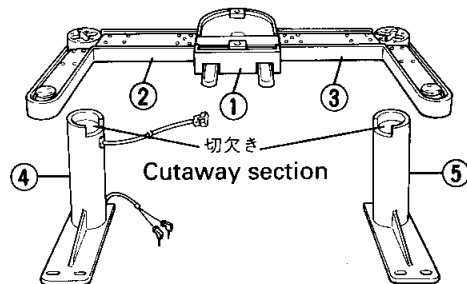
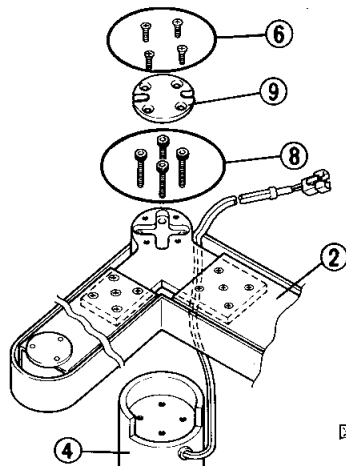

図1B/Figure 1B
図1C/Figure 1C
- (2) 脚柱Ass'y[R] ④と脚柱Ass'y[L] ⑤を図1Bのようにセットします。その際に、切欠き部分の位置に注意して、④と⑤をセットしてください。
- (3) (1)で組み立てたボトム+ベースAss'y ① ② ③を④と⑤の上のせます。
- (4) 図1Cで示すように、ケーブルを脚柱Ass'y[R] ④よりベースAss'y ②に通します。
- (5) 付属の六角レンチ ⑪を使って、固定ネジ ⑧で確実に締め付けます。
- (6) 次に、ゴムパッド ⑨を固定ネジ ⑥各4本で左右止めます。
- (1) Insert the base assemblies [R] ② and [L] ③ into the bottom assembly ①. Secure these using the 4 screws provided ⑥. Then secure the plastic cover of the base assembly with a single screw ⑦.
- (2) Position the leg assembly [R] ④ and leg assembly [L] ⑤ as shown in Figure 1B. When you do this, pay attention to the positioning of the cutaway sections.
- (3) Set the bottom and base assembly ① ② ③ constructed in step (1) on top of ④ and ⑤.
- (4) Pass the cable from the leg assembly [R] ④ to the base assembly ②, as shown in Figure 1C.
- (5) Use the accessory hex wrench ⑪ to tighten the screws ⑧ securely.
- (6) Next, secure the rubber pads ⑨ in place on the left and right with screws ⑥.